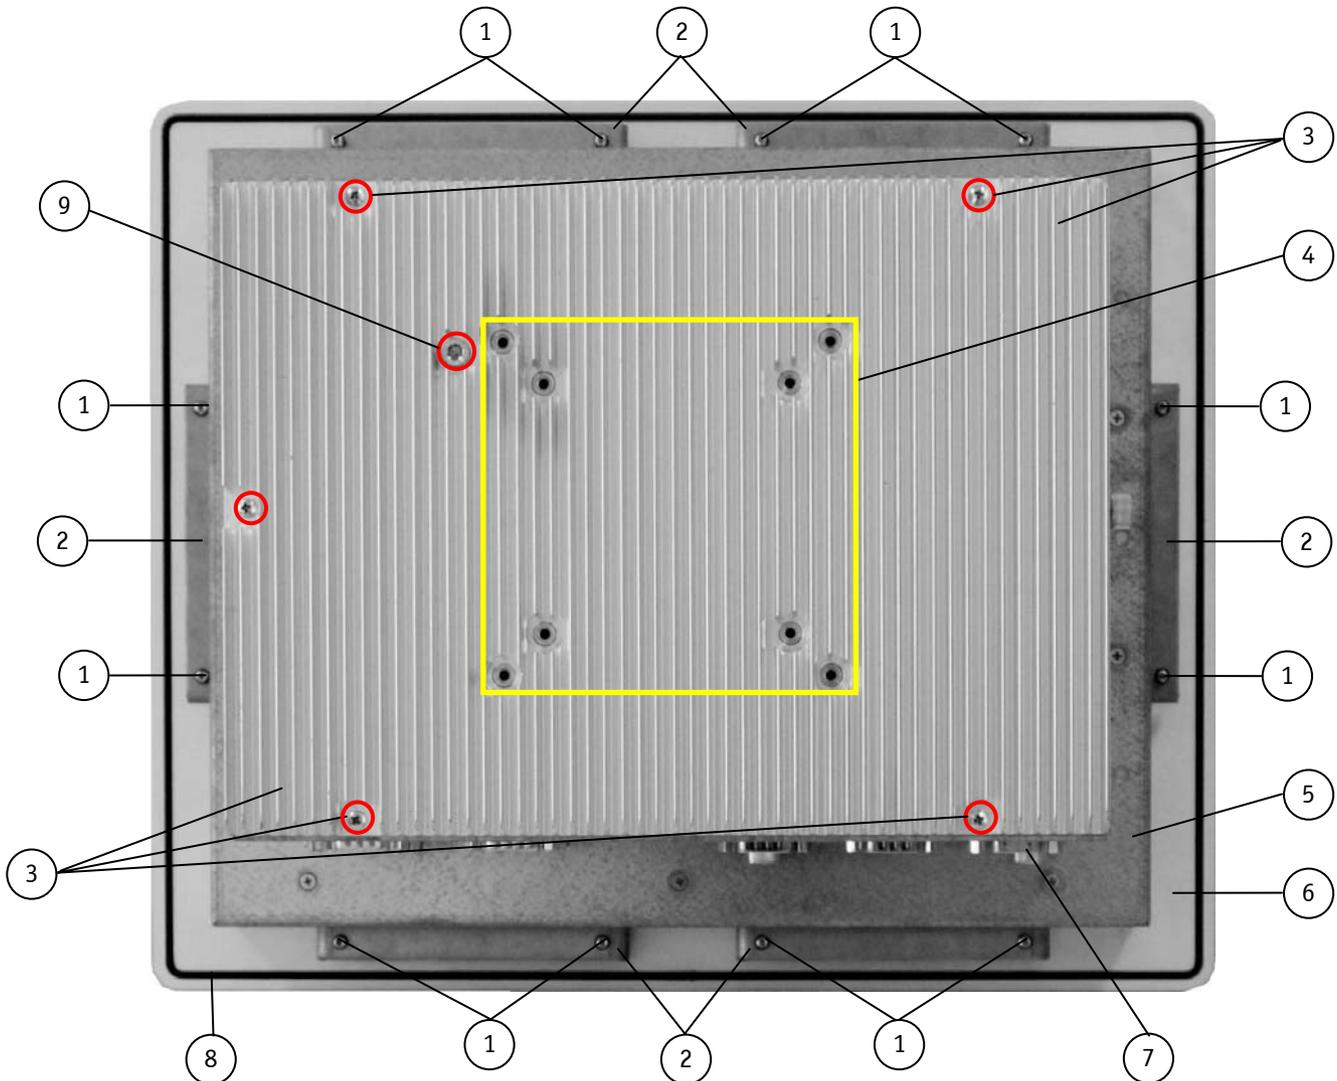

Fig. 16: Rear side, shown as V Panel Express 121 system
Please do not remove the screws marked with red (Fig. 16, pos. 3 and 9).
- at the left and right side with only one mounting clamp on each side as shown in (Fig. 16, pos 2).